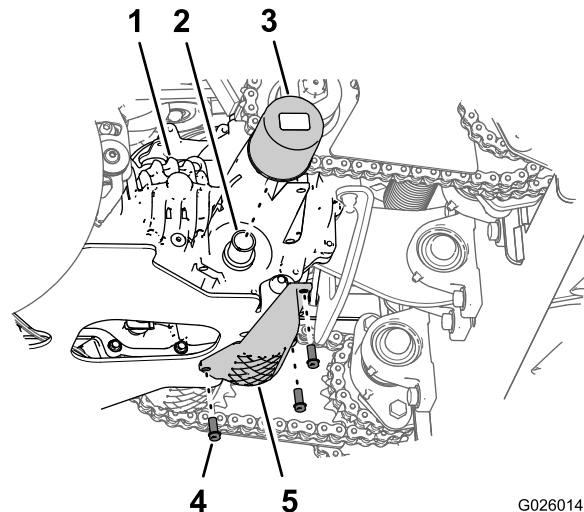

Figure 63
- Remove the 3 washer-head bolts (1/4 x 3/4 inch) that secure the filter guard to the transmission, and remove the guard (Figure 63).
- Clean the around the transmission filter (Figure 63).
- Rotate the filter counterclockwise and remove the filter (Figure 63).
- Install the filter by rotating it clockwise onto the filter adapter until the seal contacts the base of the adapter, then tighten the filter an additional 3/4 to 1 turn (Figure 63).
- Install the filter guard with the 3 washer-head bolts (1/4 x 3/4 inch) that you removed in step 3 (Figure 63), and tighten the bolts to 1117 to 1243 N-cm (90 to 110 lb-in).